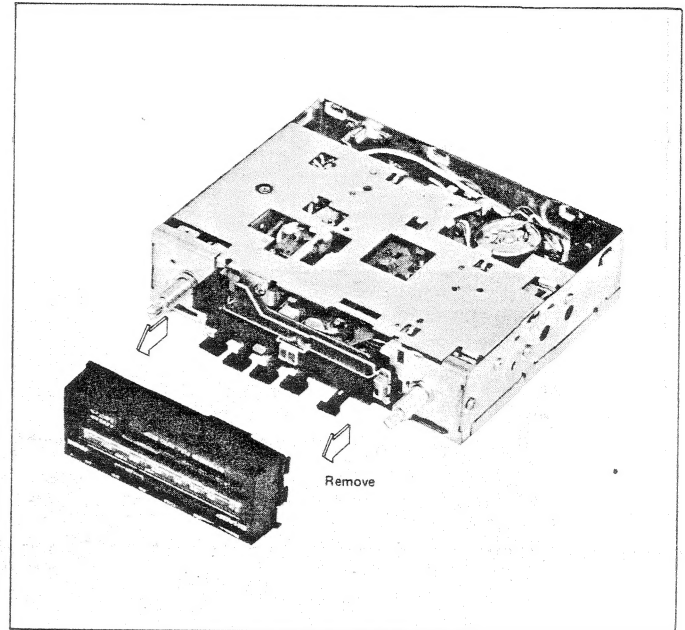

Figure 4-2
2. Remove the nose piece, then take it out. (See Fig. 4-2)